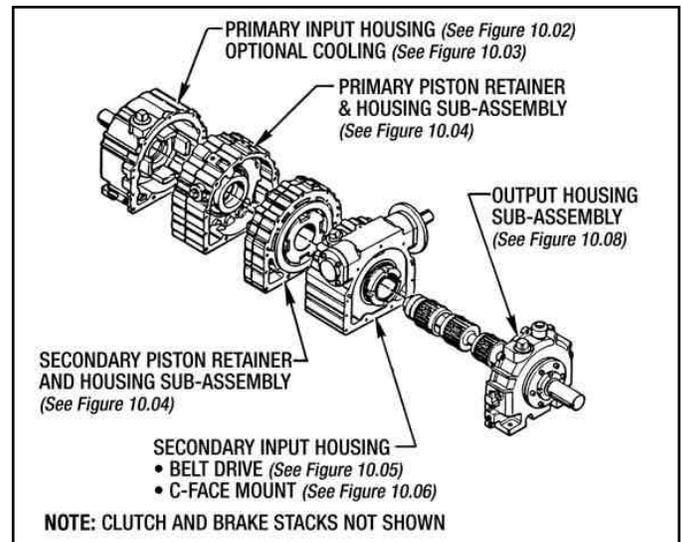

Figure 7.01 - Multi-Speed Drive (MSDr) Sub-Assemblies
Both the MSDr Units and the HSRvD units are comprised of (5) basic sub-assemblies, as shown in Figures 7.01 and 7.02, and can be disassembled as complete sub-assemblies and for easy access to the Clutch or Brake Stacks, as shown in Figure 10.01.